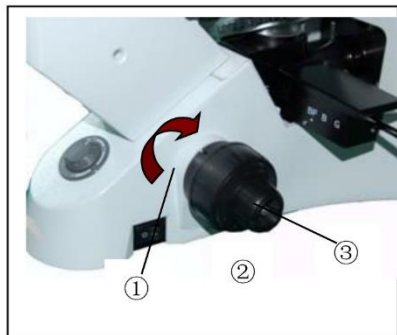

Figure 14
3.2.2. Adjusting the Tension Adjustment Collar (Figure 14)